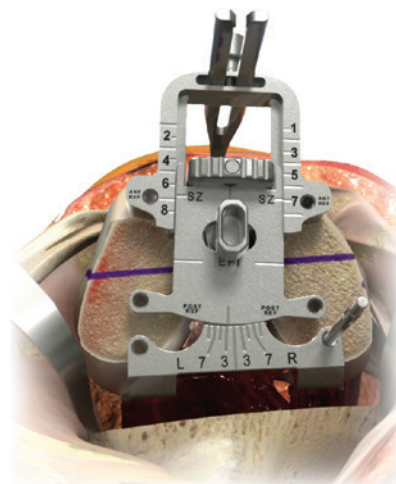

Figure 16a
2. Secure the guide to the bone through the two pin holes located at the bottom of the sizing guide (Figure 16a).